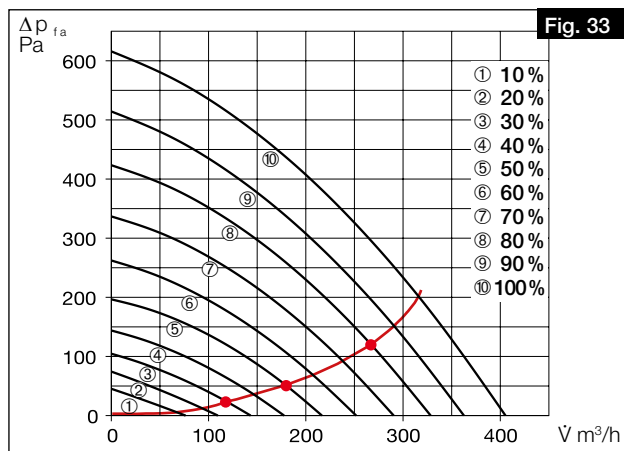

Fig. 33
6. If individual measuring points are connected, the system characteristic curve is for supply or extract air (cf. Fig. 33).